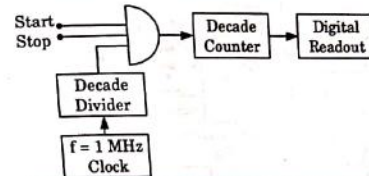

Fig. 4.14.4. Block diagram of electronic counter in time interval mode.
2. The measurement can be done using the circuit of Fig. 4.14.4.